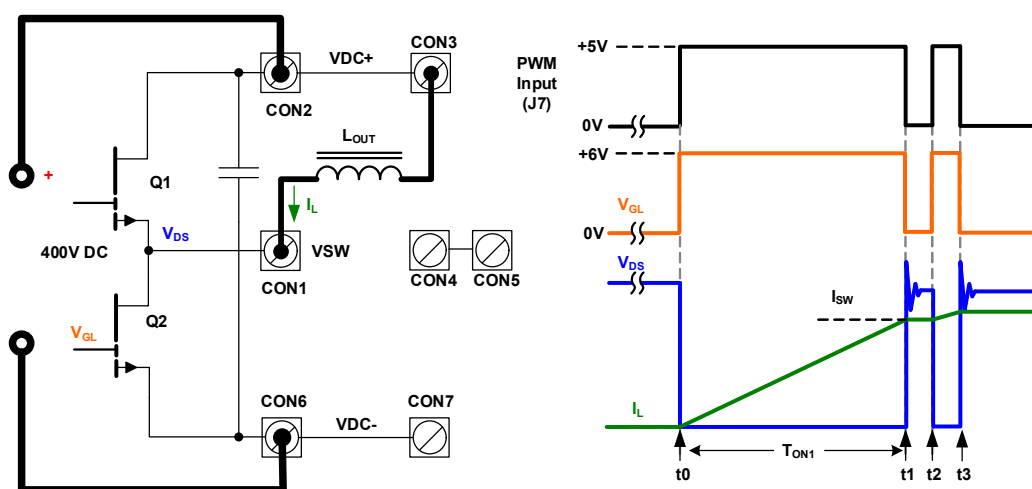
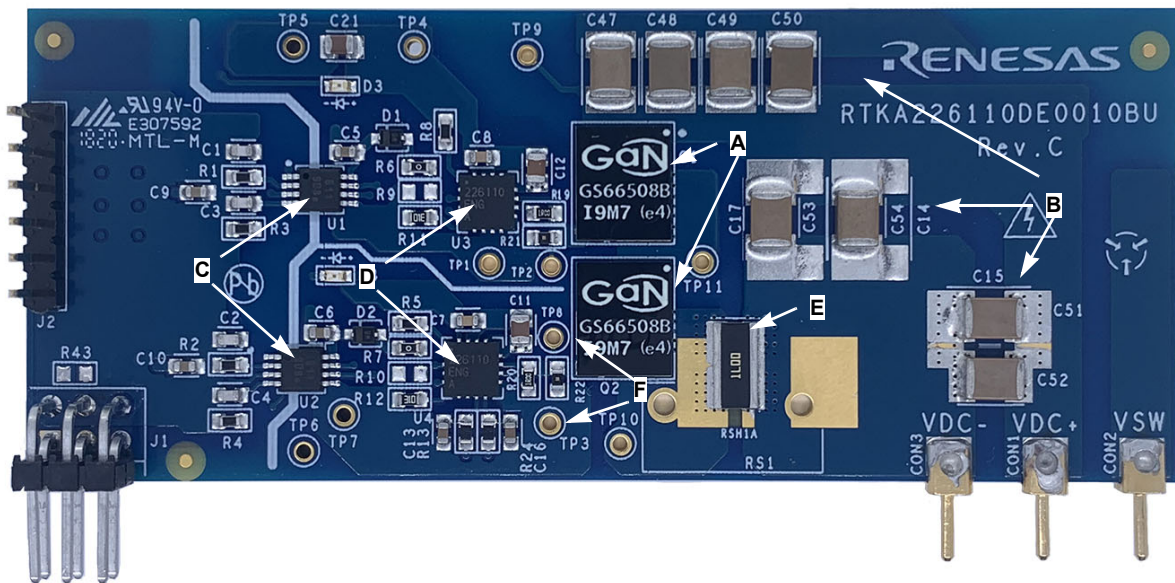

Figure 5. Double Pulse Test Setup
Figure 10. RTKA226110DE0010BU Top Side
The circuit configuration and operating principle is shown in Figure 5.
1. Check position E (Figure 10) on the RTKA226110DE0010BU daughter board.
- d. Set the High Voltage (HV) DC supply voltage to 0V and ensure the output is OFF. Connect the HV supply to CON2 and CON6.
- c. Set up the signal generator as shown in Figure 5 to create the waveforms. Use equation $I_{SW} = (V_{DS} * T_{ON1}) / L$ to calculate the pulse width of the first pulse and ensure the I_{SW_MAX} is $\leq 40A$ at 400V_{DC}.
- The board provides an optional current shunt position E (Figure 10) between the source of Q2 and power ground return, allowing the drain current measurement for switching characterization test such as Eon/Eoff measurement.